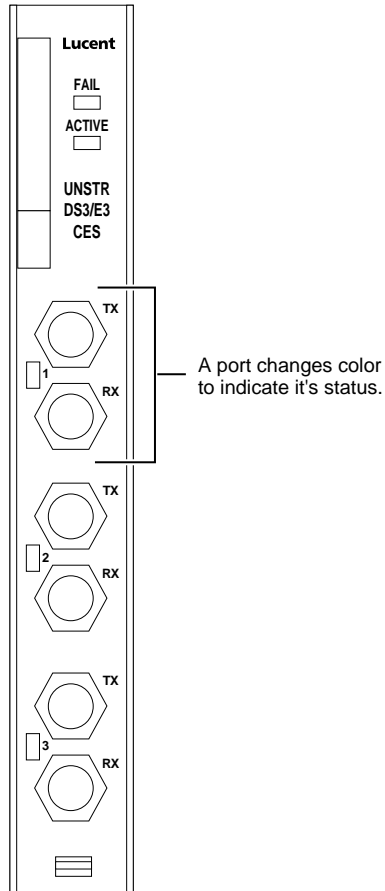

Figure 5-16. Port Status Data
- View the ports on the module in the Front Panel tab (see Figure 5-16)